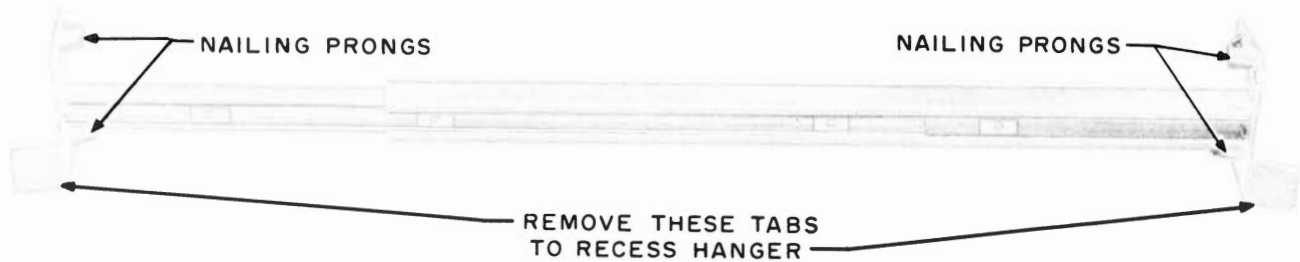

Fig. 11 – KS-19202 Hanger
**3.01** The 113-type apparatus box is designed primarily for installation on wall or partition studdings before the dry wall or plaster wall is placed. Fig. 8 and Table B should be used as a guide for these installations using the KS-19202 hangers. (See Fig. 11.)